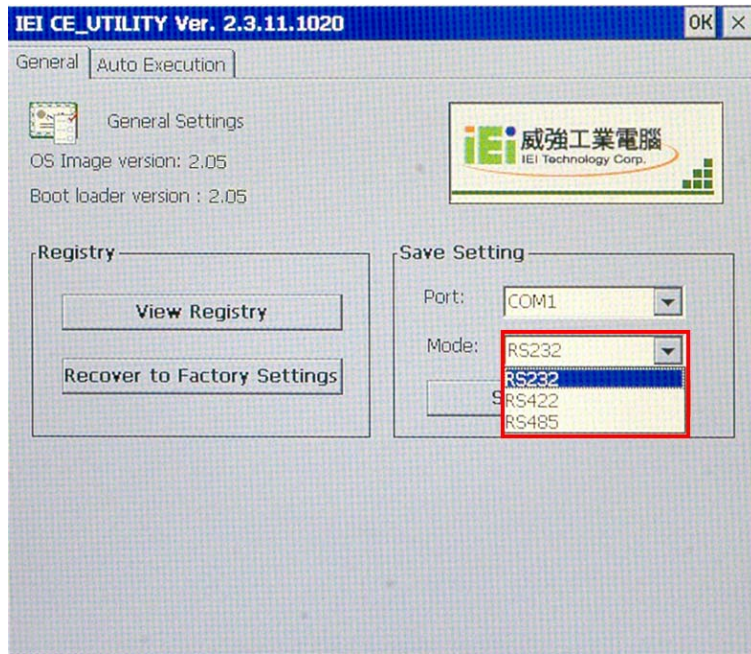

Figure 4-5: Serial Port Mode Setting
Step 2: Change serial port mode setting. Use the drop down menu in Figure 4-5 to select the desired mode setting.